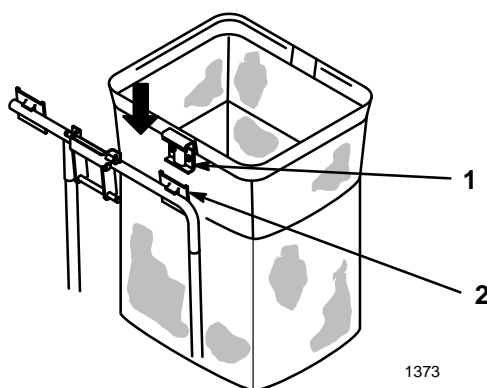

Figure 25
5. Install the bags by attaching the bag frame hooks onto the retaining brackets (Fig. 25).